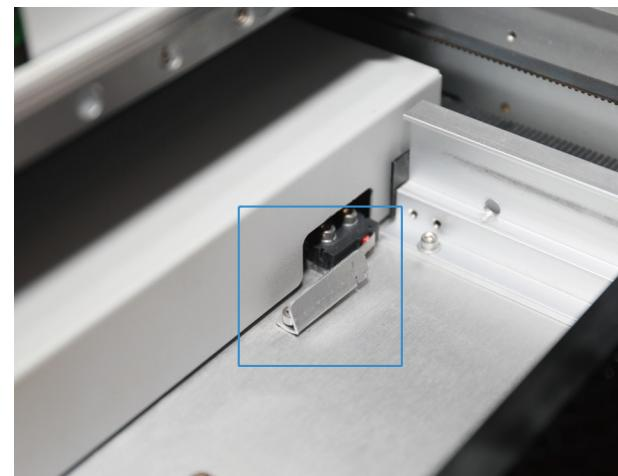

Figure 7
2) Check whether the drawer protection limit is working properly. When the drawer is pulled out, the protection limit red light goes out, the LED light dims, when the drawer is closed, the protection limit red light turns on, and the LED light turns on, it is normal operation (Figure 7)